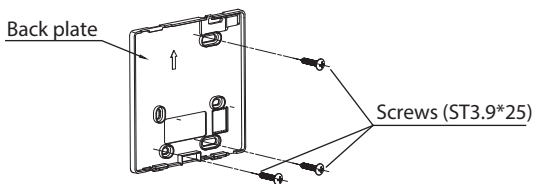

Fig 3-3
- For wakk mounting, fasten the back plate on the wall with the 3 screws (ST3.9\*25) and anchors. (Fig.3-3)